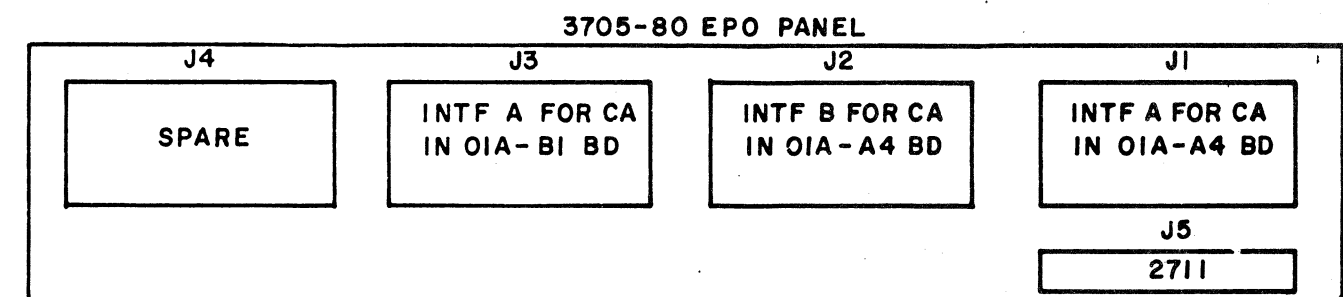

FIG. 7.0
NOTE 1: IN ORDER TO BRING POWER-ON INDEPENDENT OF THE CPU(S) EMERGENCY POWER-OFF (EPO) CABLE, A DUMMY EPO PLUG, P/N 5182923, MUST BE PLACED IN ANY ONE OF THE CPU EPO RECEPTACLES, J1 THRU J4 SHOWN IN FIGURE 7.0 BELOW, IN THE 3705-80. IT IS EXTREMELY IMPORTANT THAT THE EPO PLUG BE REMOVED WHEN LEFT UNATTENDED AND WHEN THE CPU(S) EPO CABLE HAS BEEN ATTACHED.
11.2 IF A START/STOP LOCAL ATTACH DEVICE IS TO CONNECT TO THE 3705-80, THE LINE INTERFACE CARD LOGICALLY ATTACHED TO THAT DEVICE MUST BE REJUMPERED ACCORDING TO LOGIC SHEET VA004 (VOL. 46). IF APPLICABLE, USE THE CHART ABOVE TO DETERMINE THE CARD AFFECTED, WHICH IS DEPENDENT UPON THE SYSGEN ADDRESS(ES) OF THE START/STOP LOCAL ATTACH DEVICE.
NOTE 1: IN ORDER TO BRING POWER-ON INDEPENDENT OF A CPU(S) EMERGENCY POWER-OFF (EPO) CABLE, A DUMMY EPO PLUG, P/N 5182923, MUST BE PLACED IN ANY ONE OF THE CPU EPO RECEPTACLES, J1 THRU J4 (SEE FIG 7.0, PAGE 7), IN THE 3705-80. IT IS EXTREMELY IMPORTANT THAT THE EPO PLUG BE REMOVED, WHEN LEFT UNATTENDED DURING INSTALLATION OR IF A CA-1 OR CA-4 IS INSTALLED IN THIS 3705-80 AND THE CPU(S) EPO CABLE HAS BEEN ATTACHED.